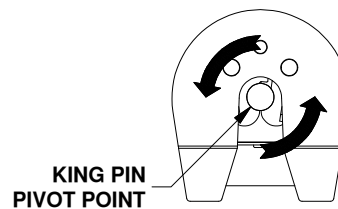
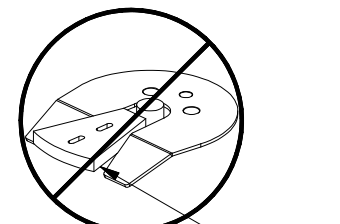

Figure G1:
Figure G2:
**⚠ WARNING:** Do not use the Patriot Slider 5th wheel hitch with any device that changes the location of the king pin pivot point. The king pin on your trailer must rotate in the jaws of the Patriot Slider Coupler, see Figure G1. Preventing the king pin from rotating within the jaws of the patriot Slider coupler with a wedge, see Figure G2, or any other device, such as a Reese Sidewinder® or Reese Revolution®, could result in property damage, serious injury or death.